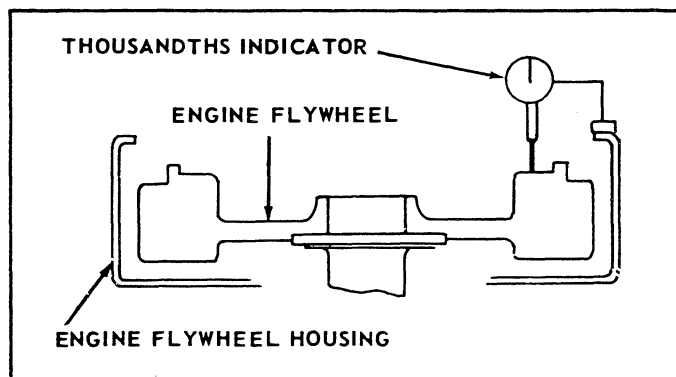

Figure 67. Checking the Driving Ring Surface of the Engine Flywheel.
F. Checking Driving Ring Surface of Engine Flywheel. Bolt a thousandths indicator or gauge to the engine flywheel housing so that the indicator is perpendicular to the engine flywheel, and the indicator stem is riding on the inner face of the flywheel (Fig. 67). The variation of face runout of the surface to which the driving ring is bolted should not exceed .0005 inch maximum total indicator reading per inch of diameter.